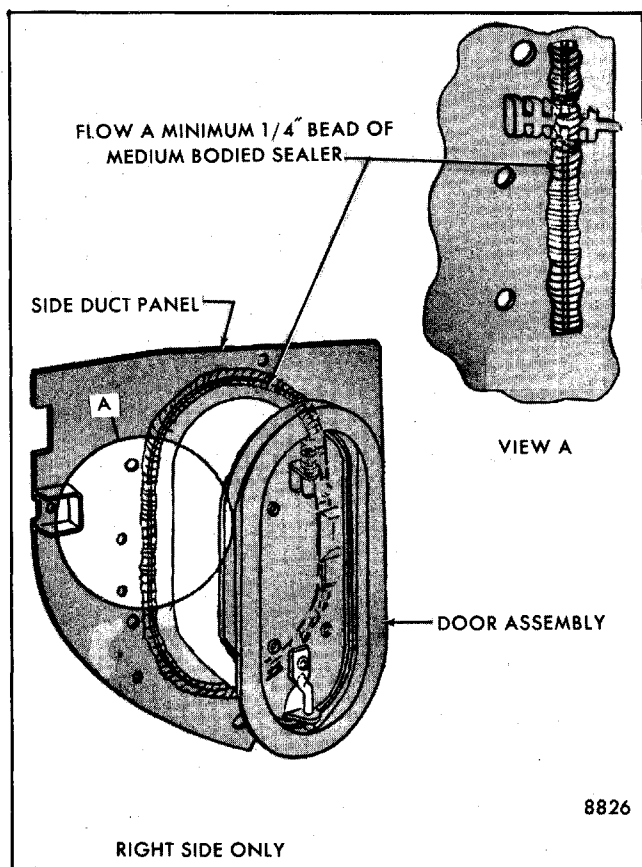

Fig. 4-18 - Side Duct Panel and Door Assembly Sealing
NOTE: Prior to reinstallation apply a minimum 1/4" bead of pumpable medium-bodied sealer completely around attaching flange of assembly as shown in Figure 4-18 to prevent water entry.
4. To install, reverse removal procedure. Use care not to disturb peripheral seal around door assembly (Fig. 4-18).